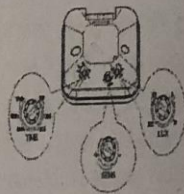

Fig 3
- (8) Replace and secure the base cover. Calibrate Fig. 3 and replace the front cover.